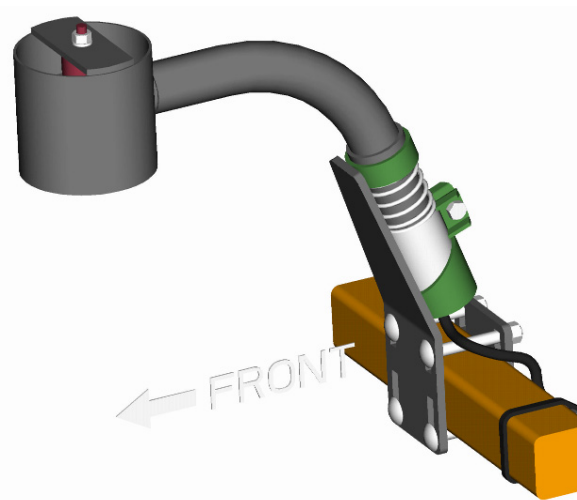

Figure 7 – Another Acceptable Mounting
3. The sensor mounting brackets can be installed with the base behind (**Figure 9**) or in front of the tube (**Figure 7**).
4. Mount the NORAC UC4+ ultrasonic sensor (E02) into the sensor brackets. The sensors should be oriented forward (ahead) of the boom (**Figure 7** and **Figure 9**).
5. Sensor cables should run through the mounting bracket tube and then behind the member the bracket is mounted onto. Cable-tie the connector in place. The cable must not be allowed to hang below the boom (Figure 7).